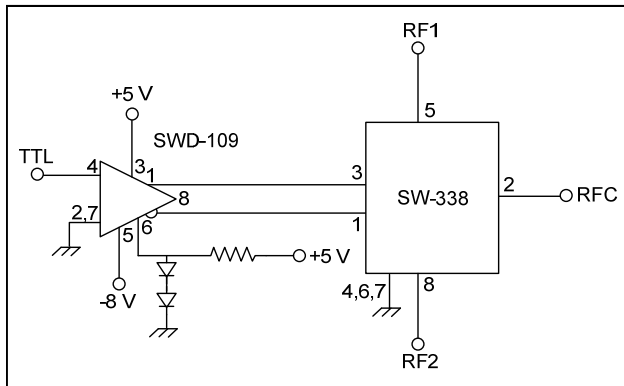

Figure 2. SWD-109 Single-Channel Driver and SW-338 GaAs MMIC Switch
2. V_{OPT} of 1.4 V can be derived from a circuit consisting of a resistor from the +5 volt supply to a pair of diodes mounted to ground (see Fig. 2).